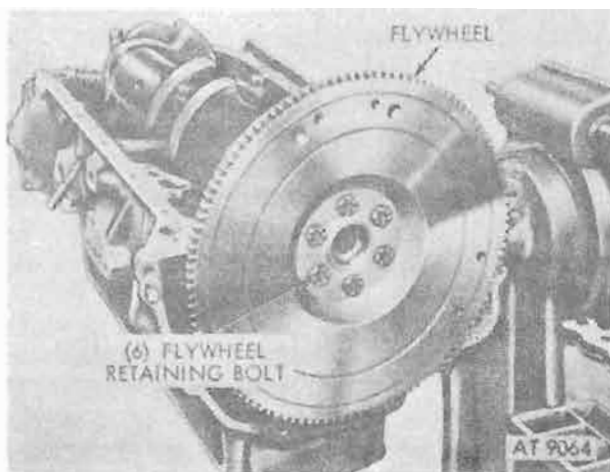

Figure 4-246. Flywheel.
a. *Install Flywheel.* Position flywheel assembly in place and crankshaft flange with bolt holes aligned. Flywheel-to-crankshaft bolt holes are equally spaced, hence flywheel can be installed in any position. Apply sealer, water-and-oil-resistant, on threads of six self-locking $\frac{7}{16}$ -20x1 $\frac{1}{8}$ flywheel retaining bolts and install. To prevent sealer from entering tapped-through holes in crankshaft, do not use sealer on first two starting threads on bolts. Tighten bolts in sequence across from each other to 75-85 lb.-ft. torque. Refer to figure 4-246.